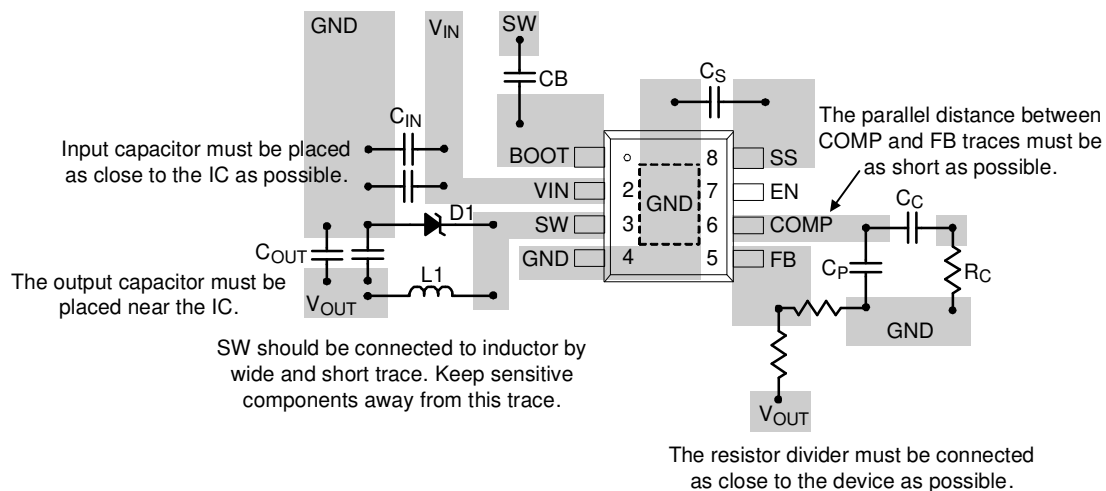

Figure 4. PCB Layout Guide
- ▶ An example of PCB layout guide is shown in Figure 4 for reference.